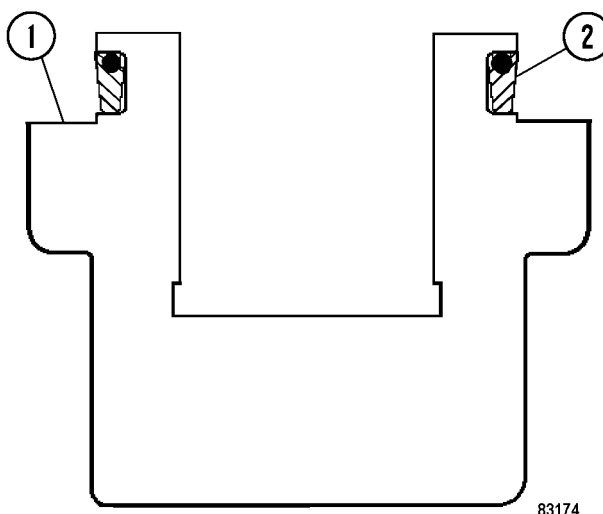
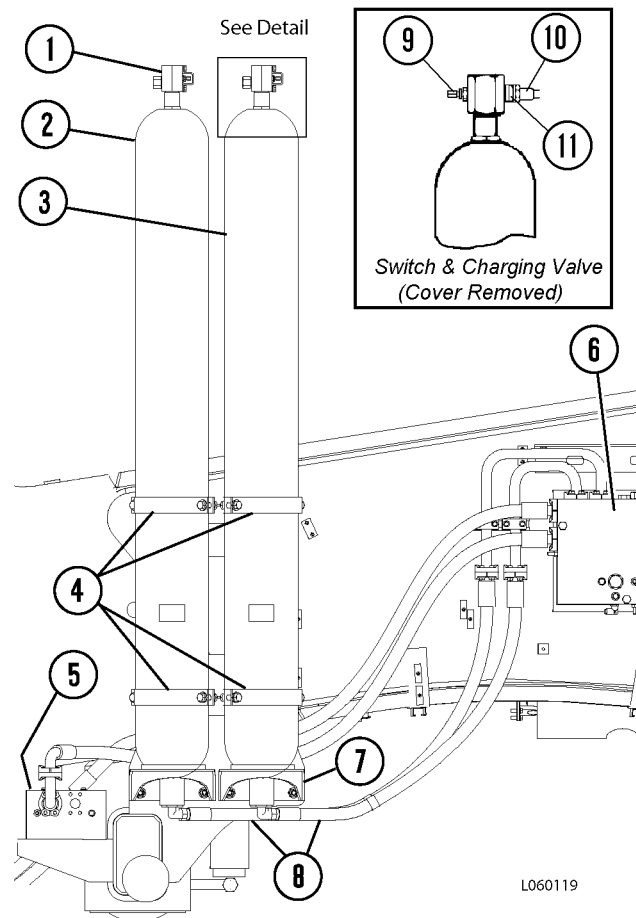
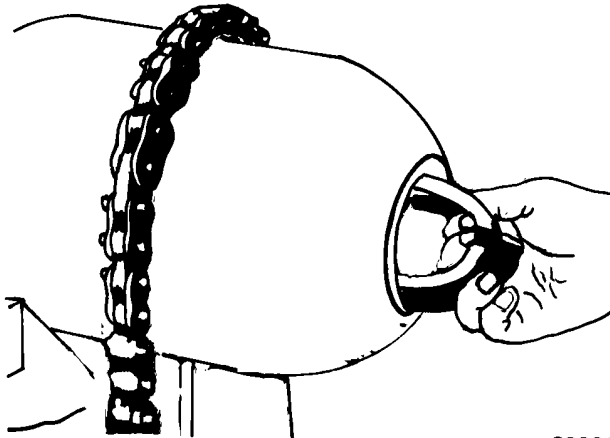
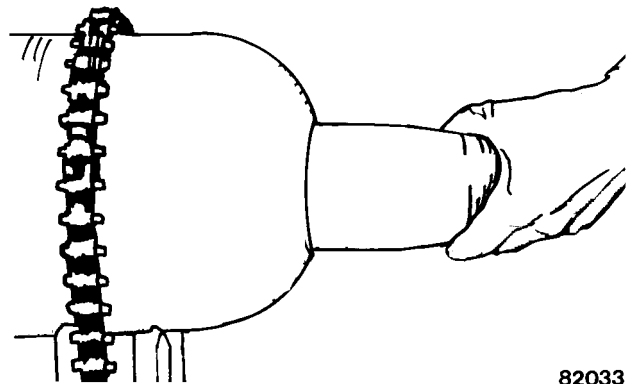

FIGURE 6-15. SEAL INSTALLATION
FIGURE 6-17. STEERING ACCUMULATORS
FIGURE 6-18. ANTI-EXTRUSION RING REMOVAL
FIGURE 6-19. BLADDER REMOVAL
42. Clean end cap (4) and ensure the seal groove is clean and free of any flaws.
43. Lightly lubricate new seal (5) with clean hydraulic oil and install the seal onto the end cap. Refer to Figure 6-15 for the correct orientation of the seal. DO NOT use any tools to install the seal. Damage to the seal may occur and oil leakage may result.
2. Remove cover (1, Figure 6-15). Disconnect the electrical wiring from nitrogen precharge pressure switch (10).
3. Remove the charging valve guard and loosen the small hex on charging valve (9) three complete turns. Depress the valve core until all nitrogen pressure has been relieved.
1. Lift the accumulator into position it on mounting bracket (7, Figure 6-15). The accumulator should be positioned to allow access to charging valve (9).
2. Secure the accumulator to mounting bracket (7) using mounting clamps (4), capscrews, lockwashers and nuts. Tighten the capscrews to the standard torque.
3. Connect the electrical wiring to nitrogen precharge pressure switch (10). Reconnect oil line (8) to the bottom of the accumulator.
5. Check charging valve (9), pre-charge switch (10) and check valve assembly (11) for leaks using a soap solution.
2. Remove bleed plug (12, Figure 6-17) on the hydraulic port assembly. Use a spanner wrench to remove locking ring (10) from the hydraulic port assembly. Use an adjustable wrench on the flats located on the port assembly to prevent the port assembly from rotating.
3. Remove spacer (9), then push the hydraulic port assembly into the shell.
4. Insert your hand into the accumulator shell and remove O-ring backup (8), O-ring (7), and metal backup washer (6). Separate anti-extrusion ring (3) from the hydraulic port. Fold the anti-extrusion ring and remove it from the shell (Figure 6-15).
6. To prevent the bladder valve stem from twisting, secure it with an appropriate wrench applied to the valve stem flats. Remove gas valve manifold (14, Figure 6-17). Then remove nut (5) while still holding the bladder valve stem.
1. After shell (4, Figure 6-18) has been cleaned and inspected, place the accumulator shell in a vise or on a table.
7. Once the bladder valve stem has been pulled through the valve stem opening in the shell, install valve stem nut (5) by hand. Remove the bladder pull rod.
8. Use a wrench to hold the bladder valve stem on the flats, then tighten nut (5) securely.
9. If removed, install pressure switch (15) into valve assembly (11). Tighten the switch to **$41 \pm 5 \text{ N}\cdot\text{m}$ ($30 \pm 4 \text{ ft lb}$)**. Then install valve assembly (11) onto gas valve manifold (14) and tighten it to **$18 \pm 4 \text{ N}\cdot\text{m}$ ($13 \pm 3 \text{ ft lb}$)**.
10. If removed, install the charging valve onto gas manifold (14). Then tighten small hex nut (4, Figure 6-19) to **5 N·m (45 in. lb)**.
- a. Tighten small hex swivel nut (4, Figure 6-19) to **14 N·m (10 ft lb)**.
11. Install charging valve cap (1) finger-tight. Install the charging valve cover,. Tighten the capscrews to **40 N·m (25 ft lb)**.
12. Install new O-ring (16, Figure 6-17) on gas valve manifold (14). Hold the bladder valve stem with a wrench and install gas valve manifold (14) securely.
13. While holding hydraulic port assembly (2) by the threaded end, insert the poppet end into the shell fluid port. Lay the complete assembly inside the shell.
14. Fold anti-extrusion ring (3) to enable insertion into the shell. Once the anti-extrusion ring has cleared the fluid port opening, place the anti-extrusion ring on the hydraulic port assembly with the steel collar facing toward the shell fluid port.
17. Install metal O-ring backup washer (6) over the hydraulic port assembly. Push it into the shell fluid port to bottom it out on the anti-extrusion ring.
18. Install O-ring (7) over the hydraulic port assembly. Push it into the shell fluid port until it bottoms out against metal O-ring backup washer (6). Ensure that the O-ring does not twist.
19. Install O-ring back-up (8) over the hydraulic port assembly. Push it into the shell fluid port until it bottoms out against the O-ring.
20. Insert spacer (9) with the smaller diameter of the shoulder facing the accumulator shell.
21. Install locking ring (10) on the hydraulic port assembly and tighten it securely. This will squeeze the O-ring into position. Use an appropriate wrench on the flats on the port assembly to ensure that the unit does not turn.
22. Install bleed plug (12) into the hydraulic port assembly.
1. Remove charging valve guard (5, Figure 6-18) and charging valve cap (6).
4. Hold valve body (6, Figure 6-19) with one wrench while unscrewing swivel nut (4) three complete turns with a second wrench. This will open the poppet inside the gas valve.